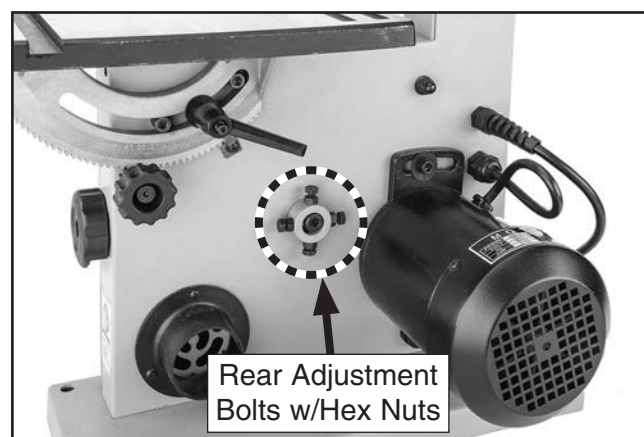

Figure 56. Location of rear lateral adjustment components.
There are four adjustment bolts with hex nuts in the lower wheel bracket, shown in **Figure 56**, that adjust the wheel tilt from side-to-side and up-and-down.
5. Using 10mm wrench, loosen hex nuts on rear left and right adjustment bolts (see **Figure 56 on Page 45**).